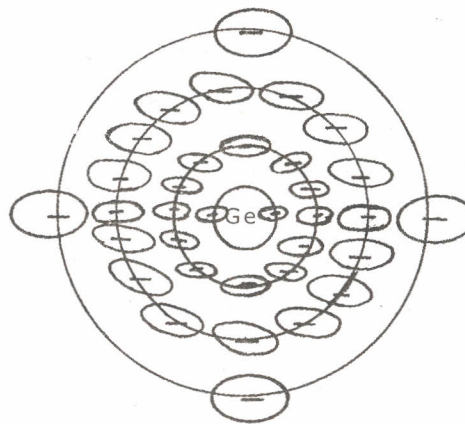

Fig: 12.2 (A) Germanium
Germanium (Ge) and Silicon (Si) are examples of semi-conductors. Fig 12.2 (A) shows a germanium atom. In the centre is a nucleus with 32 protons. The revolving electrons have distributed themselves in different orbits. There are 2 electrons in the first orbit and 8 electrons in the second orbit and 18 electrons in the third orbit. The four orbit is the outer or Valence orbit which contains 4 electrons.
Figure 12.2 (B) shows a silicon atom. It has 14 protons in the nucleus and 14 electrons in orbit. There are 2 electrons in the first orbit and 8 in the second orbit. The remaining 4 electrons are in the outer or the valence orbit.